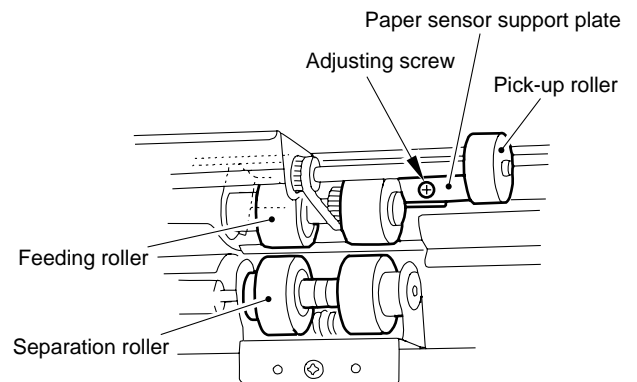

Figure 4-351
- 3) If the position of the paper surface is not as indicated, loosen the two adjusting screws of the paper sensor support plate, and move the sensor support plate up and down to adjust the position. (Figure 4-351)